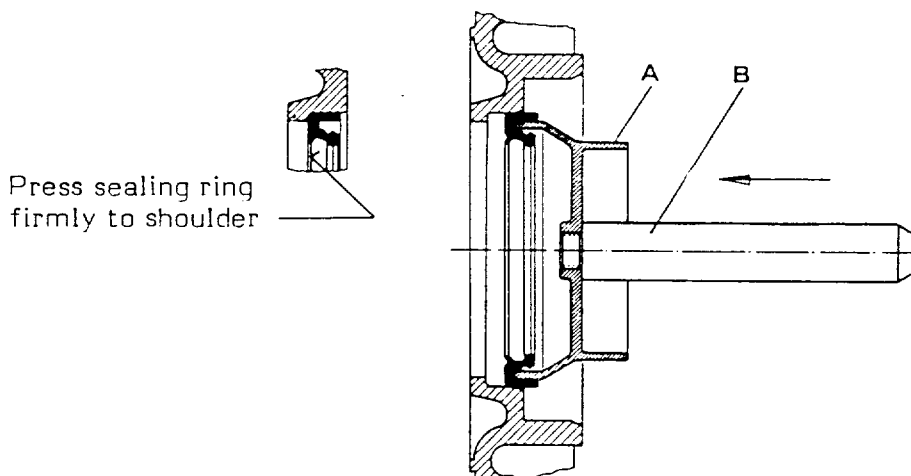

Fig. 9/3
- 1) Moisten sealing rings. Press sealing ring 4 into the clutch casing (see Fig. 9/3) and sealing ring 17 into sealing ring cover 18. To do this, use special tool (see Fig. 9/3). The bolt of the tool can be screwed into either side of the tool. This allows using the tool for mounting both sealing rings.